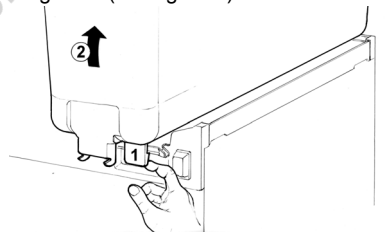

figure 1
2 Remove the empty bowl by lifting pulling lever (1) and its front side (faucet side) up and off bowl gasket (see figure 1).